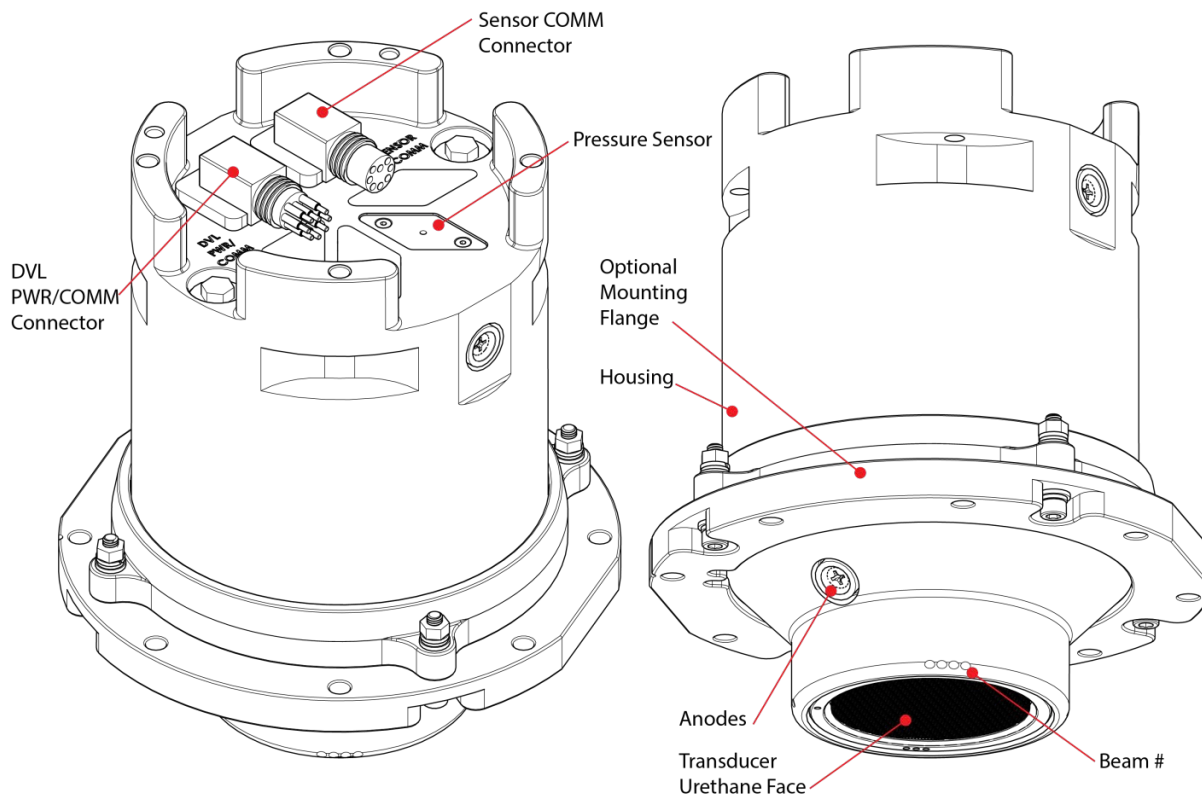

Figure 2. Pioneer 600 kHz Transducer with Optional Mounting Flange
- Two-piece removable Delrin mounting flange (see Figure 2 and Figure 8) P/N 70BK5000-00.